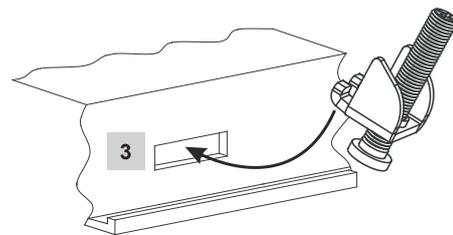

**Fig. 2a**
Control panel cut-out with the dimensions indicated in Fig. 2a, showing gasket item 2.